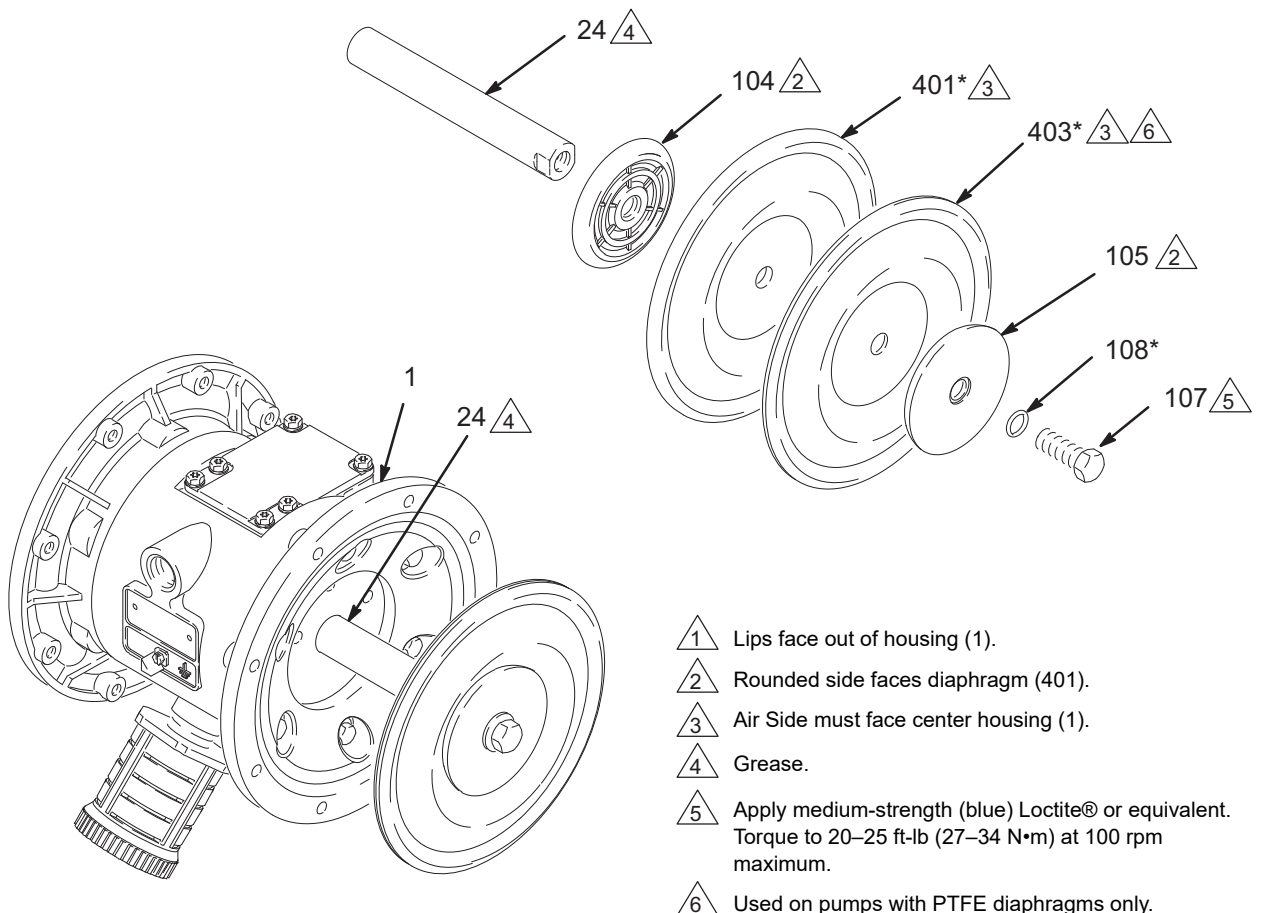

Fig. 14
4. Loosen but do not remove the diaphragm shaft bolts (107), using a 15 mm socket wrench on both bolts.
5. Unscrew one bolt from the diaphragm shaft (24) and remove the o-ring (108), fluid side diaphragm plate (105), PTFE diaphragm (403, *used on PTFE models only*), diaphragm (401), and air side diaphragm plate (104). See Fig. 14.
6. Pull the other diaphragm assembly and the diaphragm shaft (24) out of the center housing (1). Hold the shaft flats with a 19 mm open-end wrench, and remove the bolt (107) from the shaft. Disassemble the remaining diaphragm assembly.
7. Inspect the diaphragm shaft (24) for wear or scratches. If it is damaged, inspect the bearings (19) in place. If the bearings are damaged, refer to page 22.
8. Reach into the center housing (1) with an o-ring pick and hook the u-cup packings (402), then pull them out of the housing. This can be done with the bearings (19) in place.
1. Install the shaft u-cup packings (402*) so the lips face **out** of the housing (1). Lubricate the packings. See Fig. 14.
2. Install the diaphragm assembly on one end of the shaft (24) as follows.
- a. Install the o-ring (108*) on the shaft bolt (107).
- b. Install the fluid side diaphragm plate (105) on the bolt so the rounded side faces the diaphragm (401).
- c. *On PTFE models only*, install the PTFE diaphragm (403*). Make certain the side marked AIR SIDE faces the center housing (1).
- d. Install the diaphragm (401*) on the bolt. Make certain the side marked AIR SIDE faces the center housing (1).
- e. Install the air side diaphragm plate (104) so the rounded side faces the diaphragm (401). This plate is used on all models, and is stamped with its part number.
- f. Apply medium-strength (blue) Loctite® or equivalent to the bolt (107) threads. Screw the bolt into the shaft (24) hand tight.
6. Remove the air cover gaskets (22). Always replace the gaskets with new ones.
7. Use a bearing puller to remove the diaphragm shaft bearings (19), air valve bearings (12) or pilot pin bearings (15). Do not remove undamaged bearings.
8. If you removed the diaphragm shaft bearings (19) reach into the center housing (1) with an o-ring pick and hook the u-cup packings (402), then pull them out of the housing. Inspect the packings. See Fig. 14.